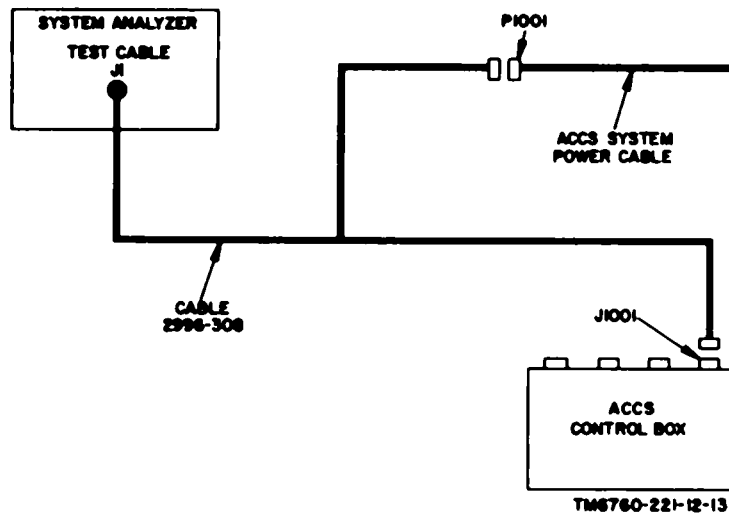

Figure 13. Connection diagram for testing ACCS (AN/USD-1B or L-19A) and camera in DAY mode of operation.
- a. *Connections* (fig. 13).
- (1) Disconnect connector P1001 of the ACCS system power cable from connector J1001 on the ACCS control box
- (2) Connect cable 2996-308 to test cable connector J1 on the system analyzer, connector J1001 on the ACCS control box and connector P1001 on the ACCS system power cable.
- (1) Set the KA-39A OPERATE switch in the R/C SIMULATOR section to OFF.
- (2) Set the POWER switch in the R/C SIMULATOR section to OFF.
- (3) Remove power from the ACCS.
- (4) Disconnect cable 2996-308 (fig. 13) from the ACCS control box, the ACCS system power cable, and the system analyzer.
- (5) Reconnect connector P1001 of the ACCS system power cable to connector J1001 on the ACCS control box.